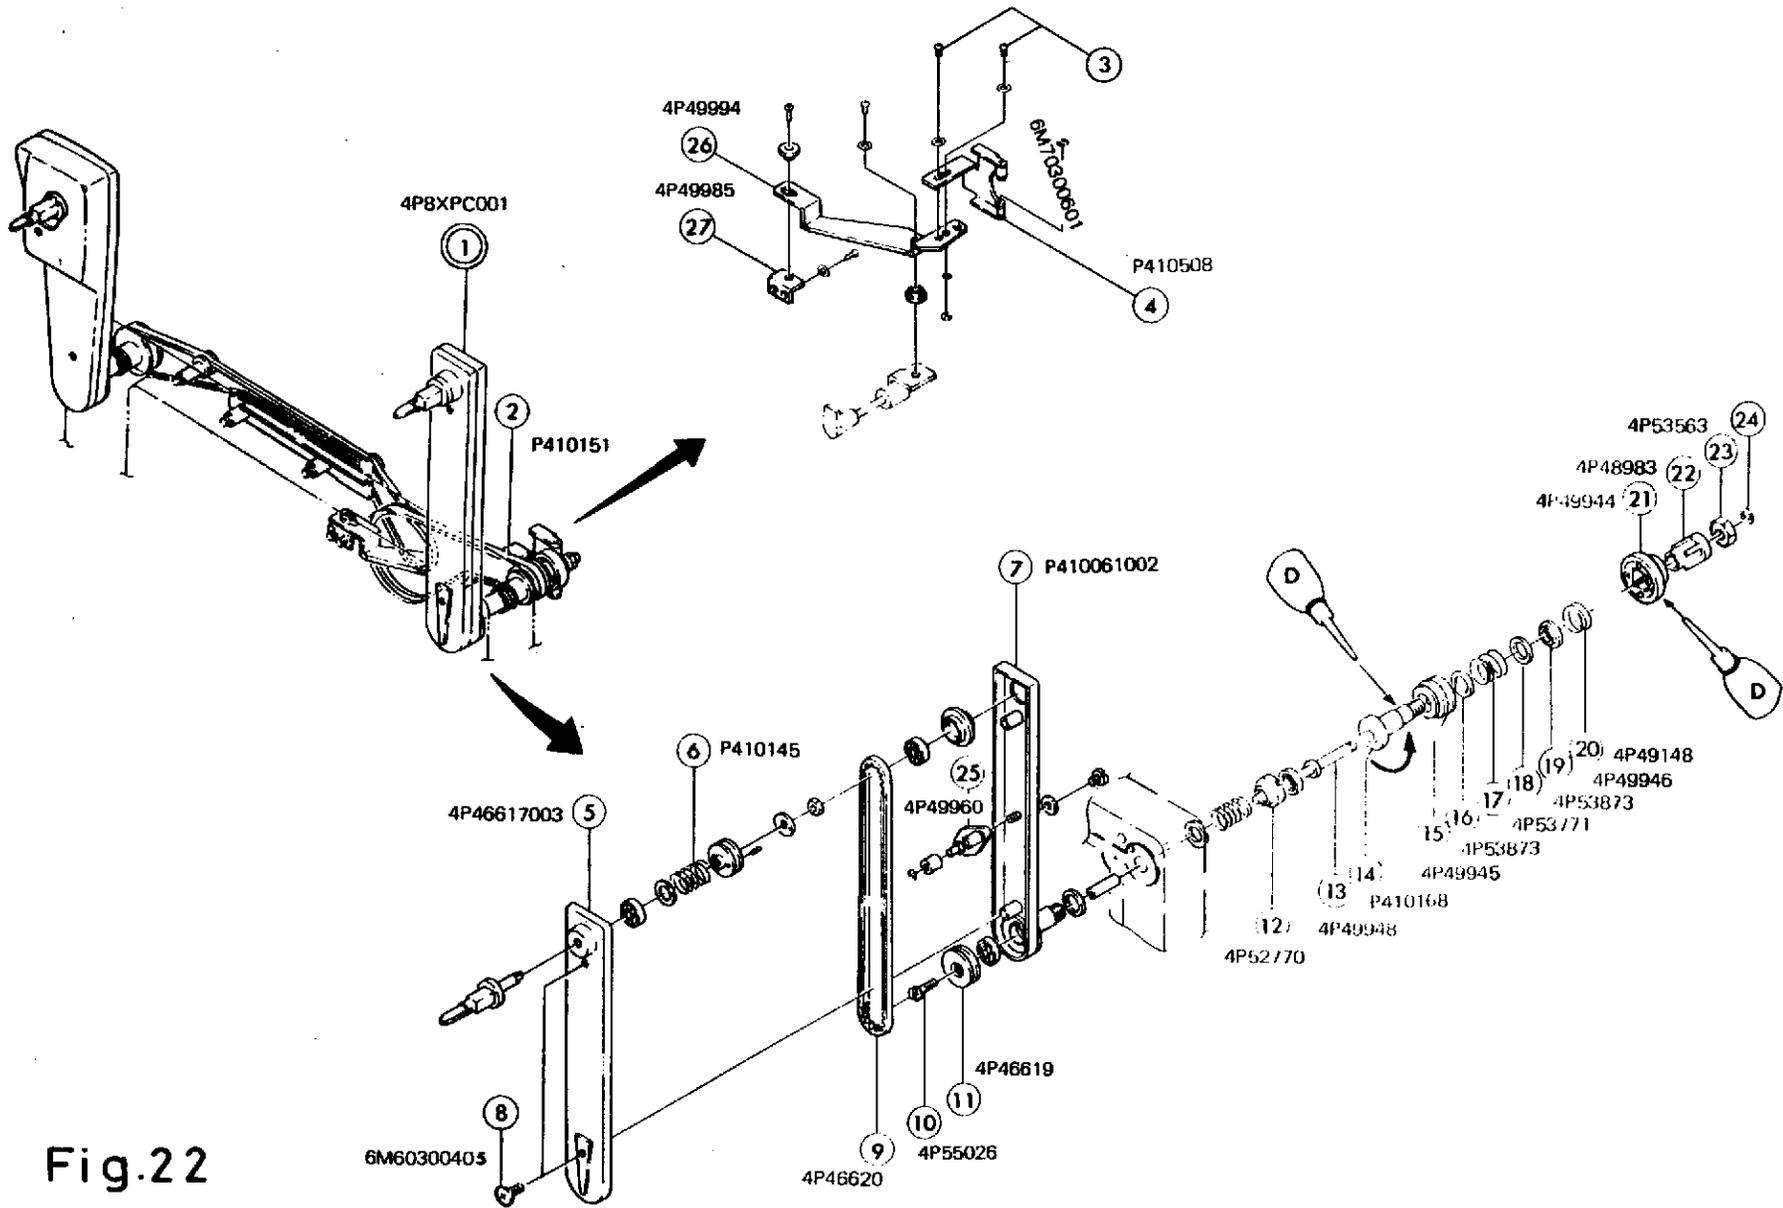

Fig.22
TROUBLESHOOTING: Refer to Fig. 22.
Referring to Fig. 22, disassemble the above assembly.
1. Make sure that (13) turns together with (14) when turning (14) in the arrow direction (Fig. 22).
2. Adjust the position of (25) where (9) does not slip.
3. Adjust the positions of (4)(26)(27) where (15) engages with (21) while a high speed rewind knob is pulled out.